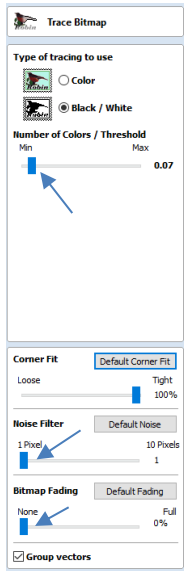

Fig. 16
17. Now move the Threshold blue slide-bar back to the right slowly in the Trace Bitmap window (Fig. 16). You can use the arrow keys to do this.
19. Move the Noise Filter slide-bar and the Bitmap Fading slide-bar to the left on the Trace Bitmap window (Fig. 16).